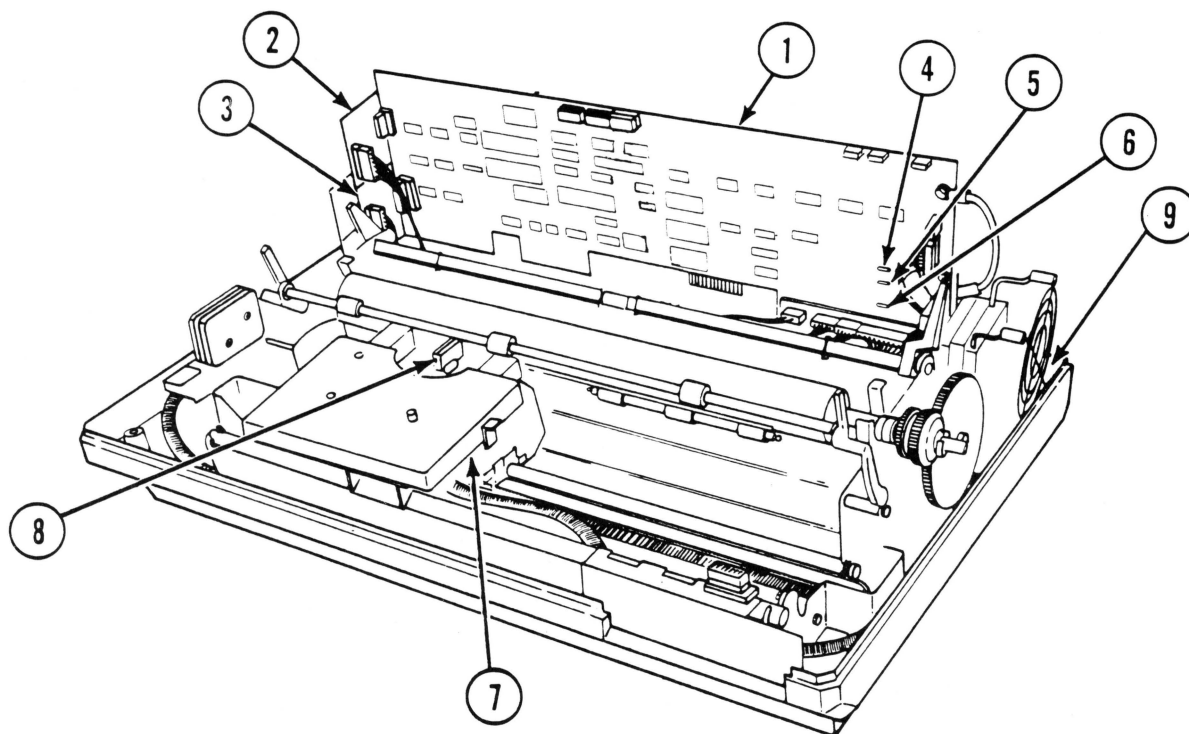

FIGURE 1
Main PCB (Figure 1, #1)
Assembly) - Figure 1, #2
Motor) - Figure 1, #3
-	F2, 2 amp (Figure 1, #5)